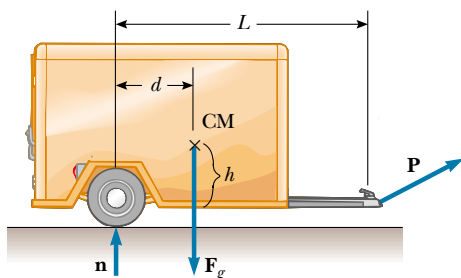

Figure P12.69
69. **Review Problem.** A trailer with a loaded weight of F_g is being pulled by a vehicle with a force \mathbf{P} , as illustrated in Figure P12.69. The trailer is loaded such that its center of mass is located as shown. Neglect the force of rolling friction and let a represent the x component of the acceleration of the trailer. (a) Find the vertical component of \mathbf{P} in terms of the given parameters. (b) If $a = 2.00 \text{ m/s}^2$ and $h = 1.50 \text{ m}$, what must be the value of d